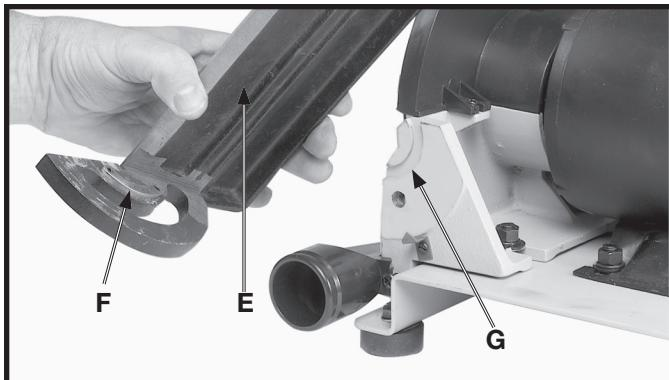

Fig. 14
- Position the disc table (E) Fig. 14, on the disc base casting, making sure the key (F) on the table bracket is engaged with the keyway (G) on the base casting.